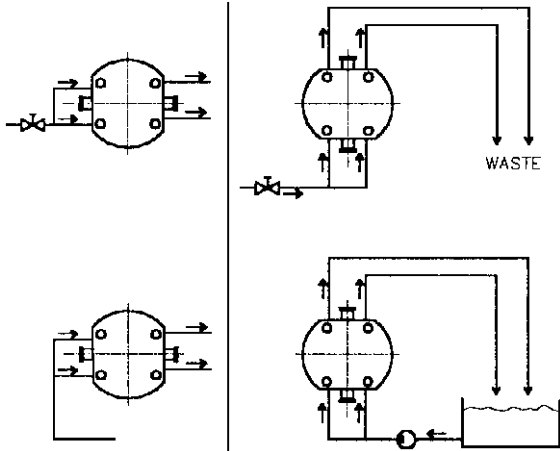

Fig. 2
- Flush fluid should be connected to flow in at the lowest point on the seal housing and out at the highest point to vent air pockets, as shown in Fig. 2 (overleaf).